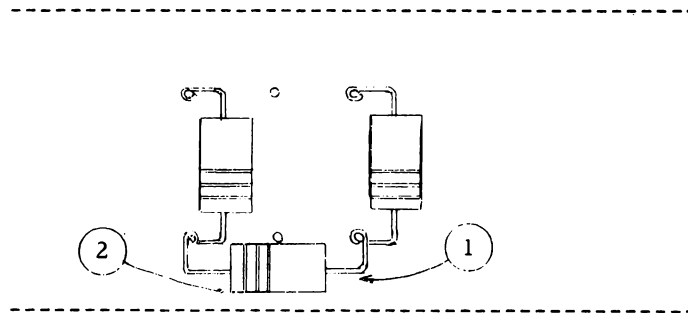

Figure 3-20
e. Where components are mounted across the board and a component is to be mounted with the length of the resistor board, mount the resistor outside the CTC terminals. (1, Figure 3-20.)
f. Components mounted outside the CTC terminals should not extend beyond the resistor board. (2, Figure 3-20.)